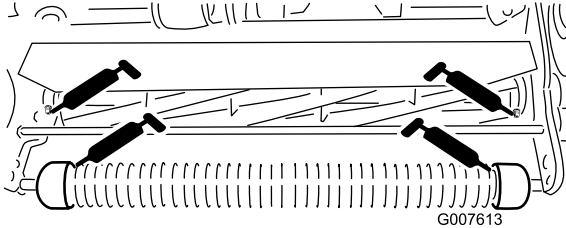

Figure 14
- 2 on the front roller (Figure 14)
- 2 on the reel bearings (Figure 14)